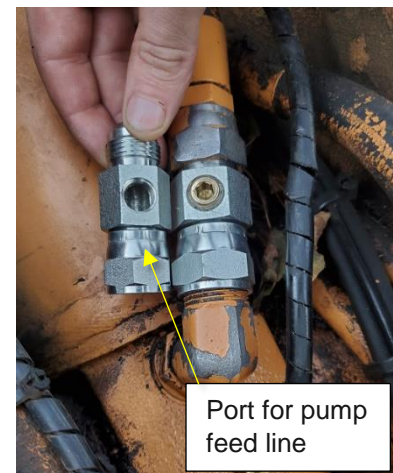

Figure 18 Gauge Port Adapter
4. Install the gauge port adapter (**Figure 18**) into the lift side pressure line of the cylinder. Reconnect the hydraulic supply to the cylinder through the gauge port fitting and install a hydraulic feed line to the hydraulic-powered automatic lubrication pump.